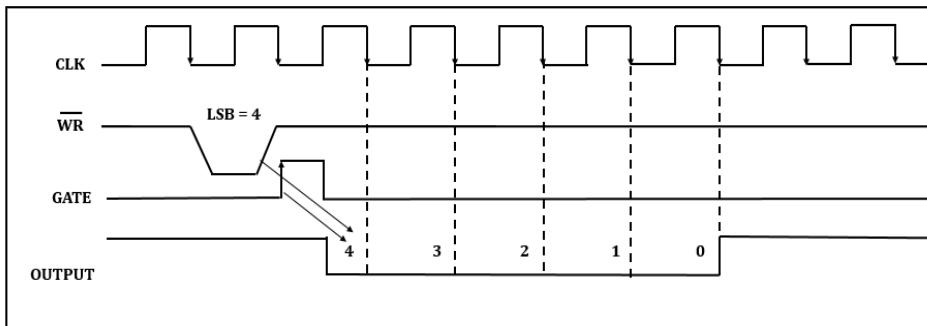

Figure 3.12: Mode 1 Timing Diagram.
- On Terminal Count (TC) the OUT Pin goes high, and remains high.
- Figure 3.12 shows the Mode 1 Timing Diagram.